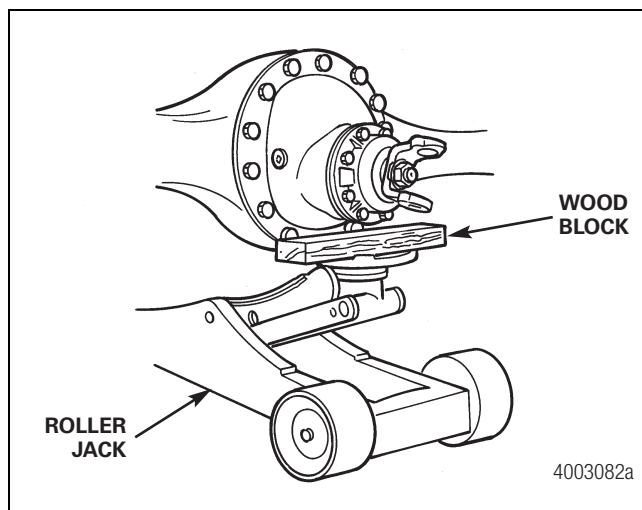

Figure 4.1
7. Place a hydraulic roller jack under the carrier to support the assembly. Figure 4.1.